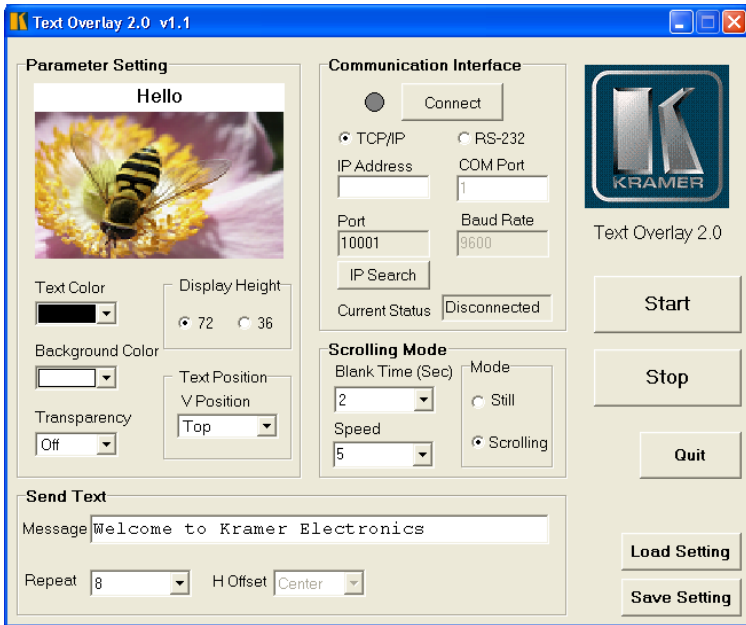

Figure 30: Text Overlay Application Screen
**Figure 30** defines the Text Overlay Application Screen: